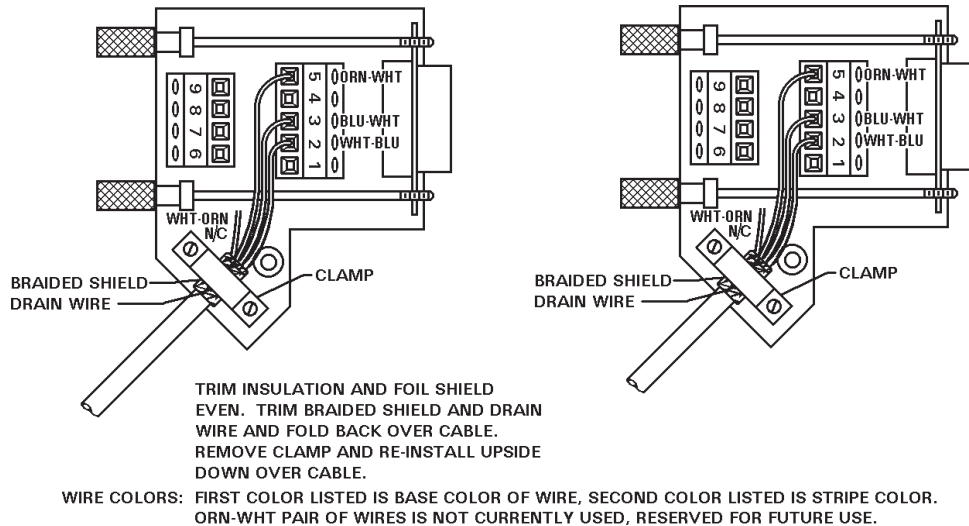

Figure A-1. RS232 Connector wiring
2. Strip outer insulation and foil shield at each end 1-1/2" and wire both ends as shown in Figure A-1.